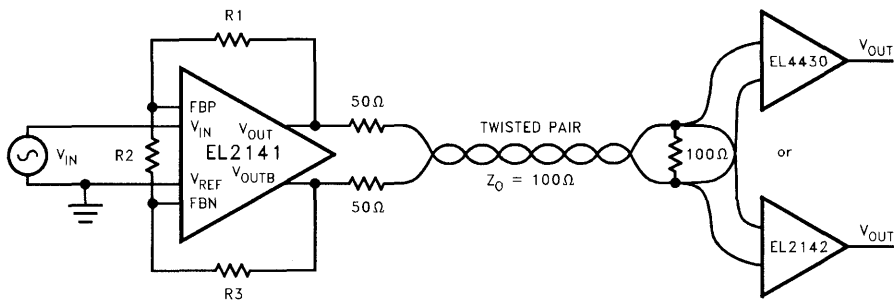

Figure 1. Typical Twisted Pair Application
**H2** The second harmonic arises from the input stage, and the lower the applied differential signal amplitude, the lower the magnitude of the second harmonic. For practical considerations of required output signal and input noise levels, the user will end up choosing a circuit gain. Referring to Figure 1, it is best if the voltage at the negative feedback node tracks the VREF node, and the voltage at the positive feedback node tracks the VIN node respectively. This would theoretically require that R1 + R2 = R3, although the lowest distortion is found at about R3 = R1 + (0.7 \* R2). With this arrangement, the second harmonic should be suppressed well below the value of the third harmonic.